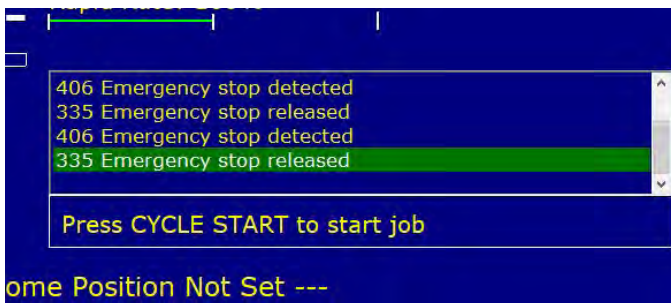

FIGURE 7
- Twist the red knob to release the E-stop and the control will show "335 Emergency stop released" (see Figure 7).